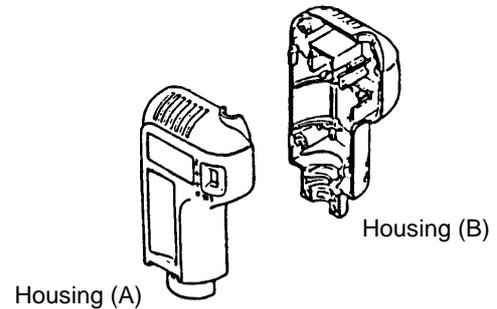

Fig. 4
(1) Disassembly of Housing (B) ②: (See Fig. 4)